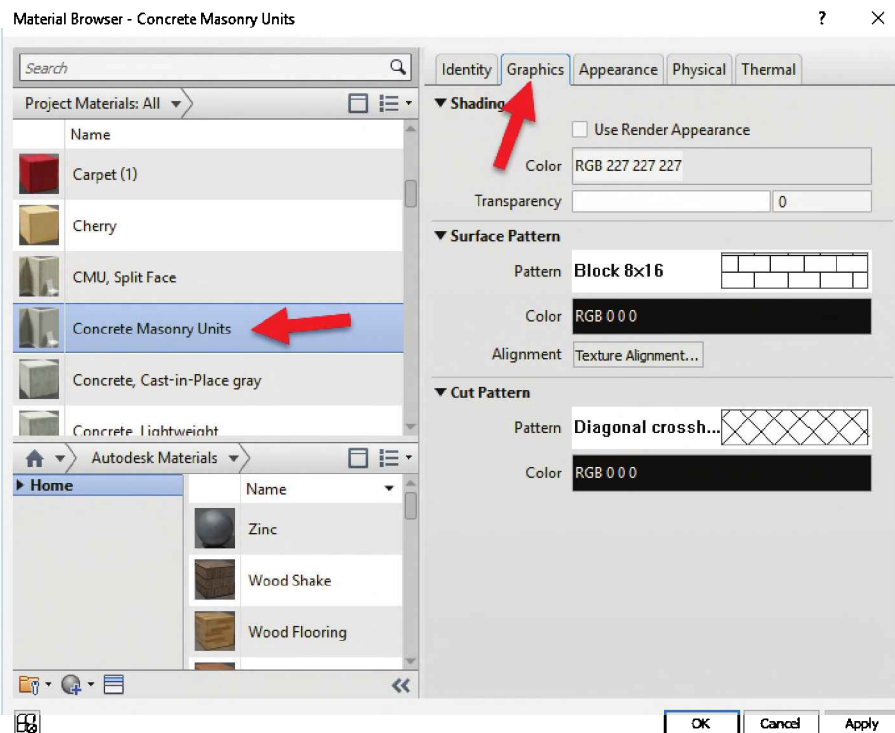
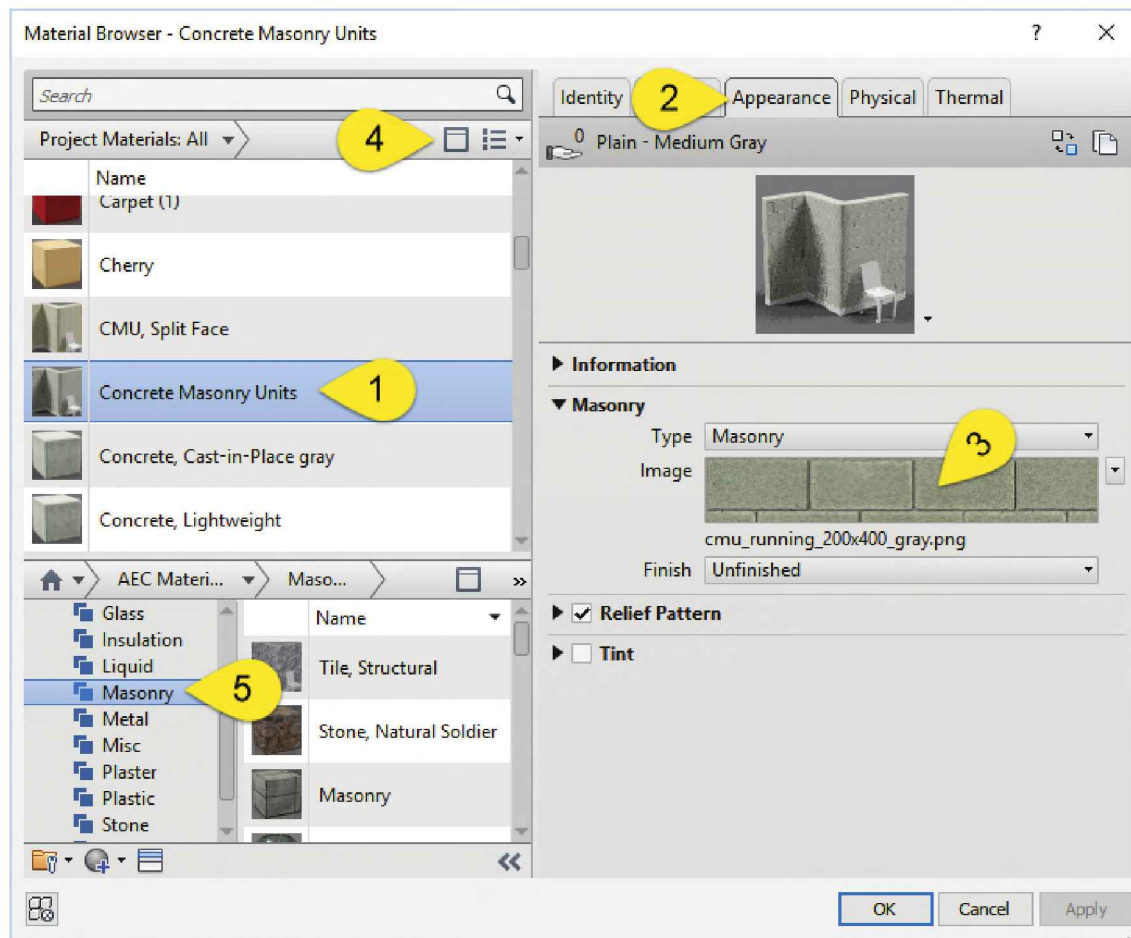

FIGURE 15-2.5 Materials dialog; initial view
FIGURE 15-2.6 Revit's Render Appearance Library dialog – step #4
You are now in the *Material Browser* dialog (Figure 15-2.5). You should notice that a *Texture* is already selected for the *Appearance* asset (Figure 15-2.6).
11. Click the **Appearance** tab (Step 2 in Figure 15-2.6).
You will now see all the masonry graphics available in Revit's *Library* (Figure 15-2.6).
12. Click **Masonry** in the *Autodesk Library* section (Step #5, lower left of Figure 15-2.6).
If you need more than one CMU color, you duplicate the material listed in Figure 15-2.5 and assign another render appearance asset.